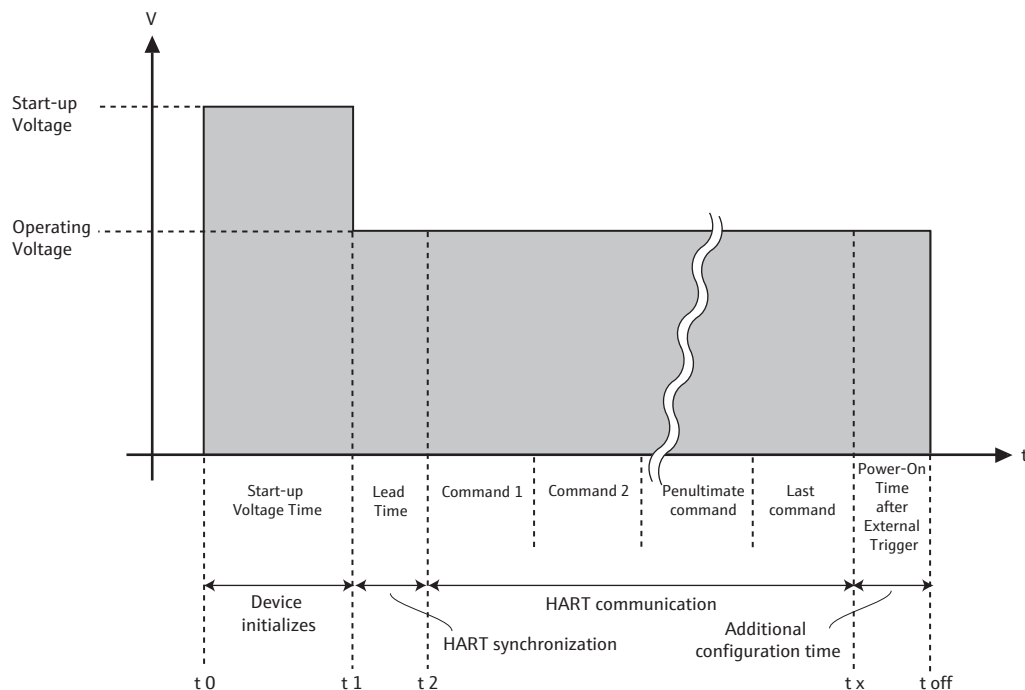

Fig. 10-3: Field device power parameters
- The meaning of the individual parameters is illustrated in "fig. 10-3" and explained in the "Field device power" table.